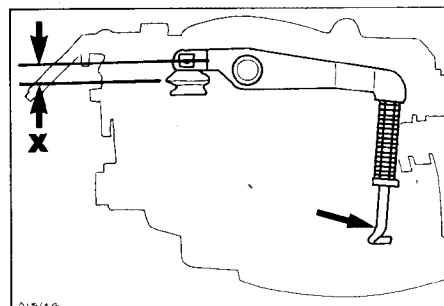

Fig. 9 Accelerator pump
- Measure accelerator pump lever stroke (X, Fig. 9) at inner end through full movement.